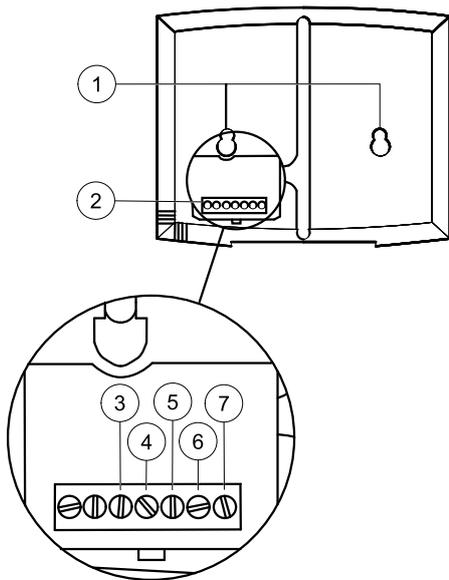

Bild 16 Drahtanschlüsse der Bedieneinheit
The control panel is delivered connected to the Corrigo control unit situated in the electrical connection box. Cable length is 32.8 ft. (10 m). In case the control panel needs to be detached from the signal cable it is possible to loosen the wires on the back of the control panel (Abbildung 16).
If needed, drill two holes in the wall to hang the control panel (centre to centre: 2.4" (60 mm)) (pos.1, Abbildung 16).